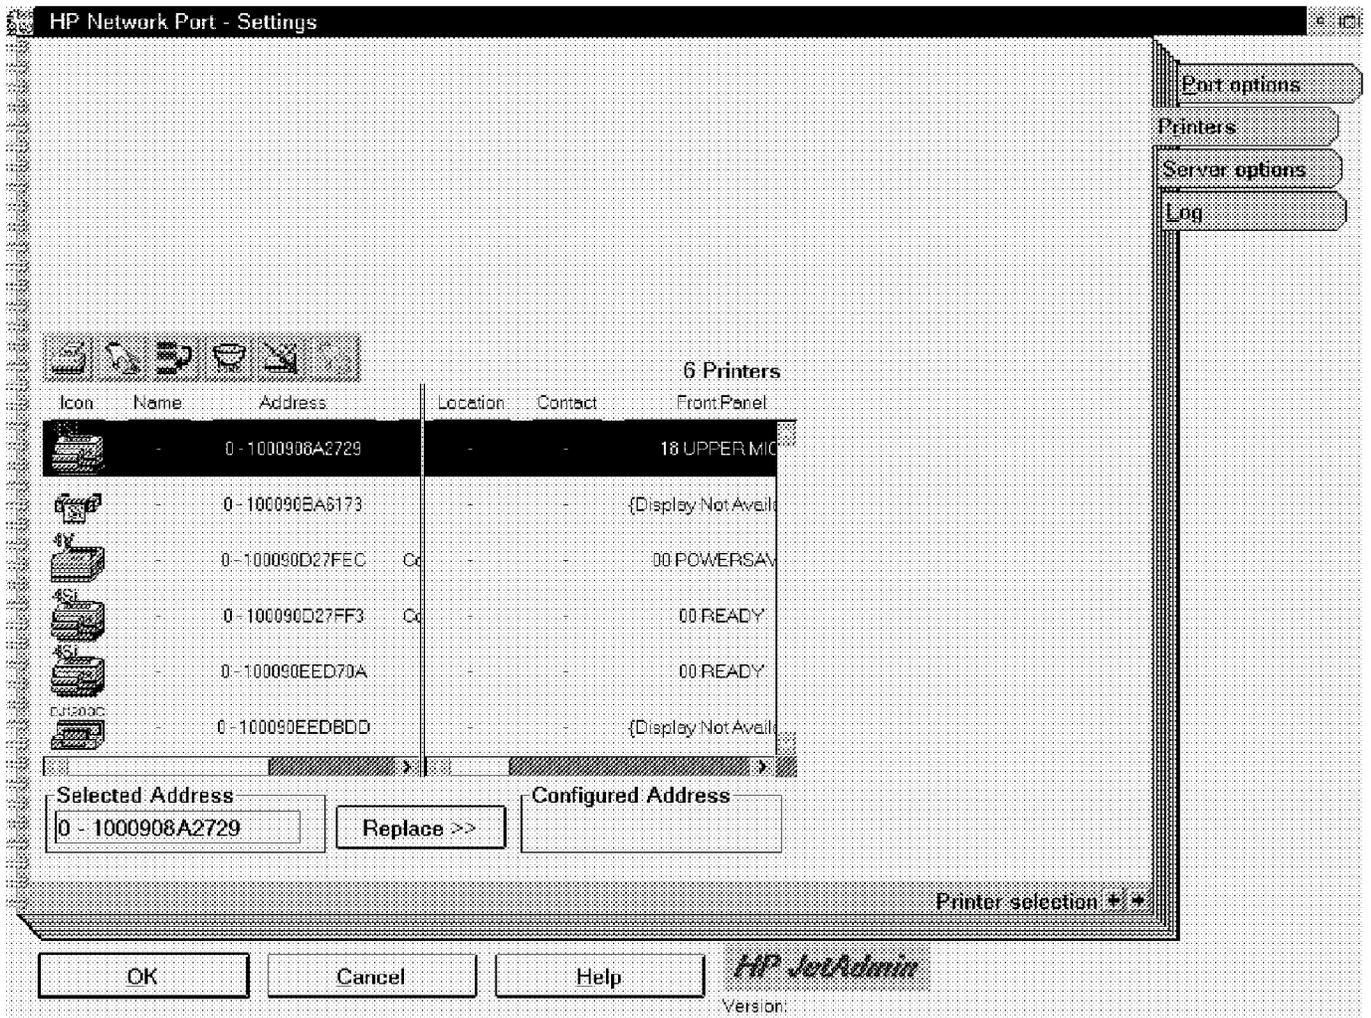

Figure 208. HP JetAdmin Settings Notebook
6. JetAdmin will interrogate the network looking for printers it can recognize. When it's done, you'll see the Settings notebook shown in Figure 208. On the Printers page, you see a list of all printers identified by JetAdmin. On the left side, the list shows for each printer: the Icon for that type of printer, the printer Name if there is one assigned to the printer, the LAN Address and whether it is connected to a controlling port driver. On the right side,